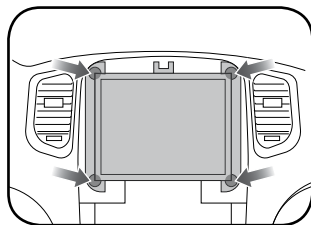

Fig. 1.2
- Remove (4) phillips screws holding the OEM radio in the dash. Disconnect the radio and remove it. (Fig. 1.2)